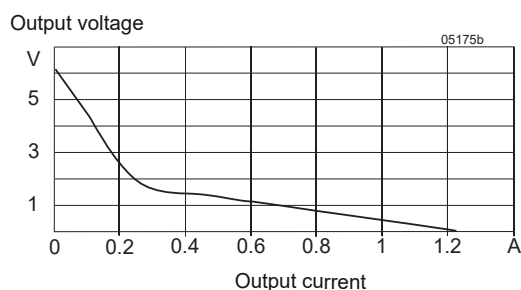

Fig. 20
Reduces the output power to approx. 1 W, but the converter is not fully disabled. In a no-load condition, V_o drops below 6.2 V; see fig. 20. In double-output models, only output 2 is influenced.
Resistor R_{ext1} , connected between R (pin 2) and GND1 (pin 1) of the D-SUB connector or according to fig. 20.
Note: If the R function is not included in M1 or M2, refer to figure 20 how to connect R_{ext1} or R_{ext2} .
b) Adjustment by an external control voltage V_{ext} (1.25 – 2.75 V), connected between R (pin 2) and GND (pin 1) of the D-SUB connector or according to fig. 20.